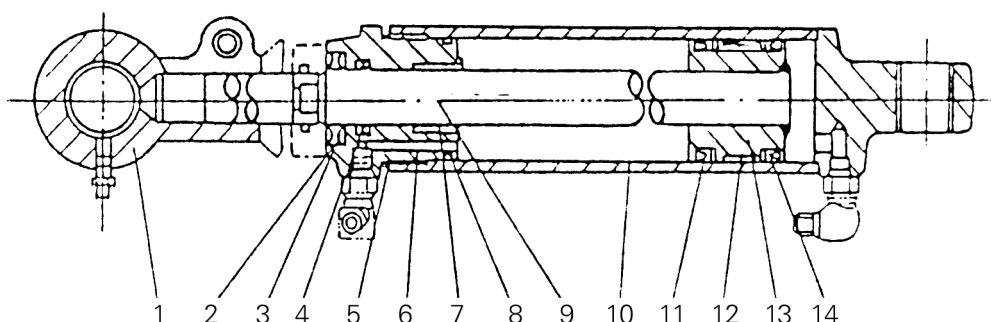

Fig.9-11 Tilt cylinder
- (1) Nipple (2) Spring (3) O-ring (4) Snap ring (5) Orifice plate
(6) Sleeve (7) Valve core (8) Ball (9) Spring (10) Valve body
9.7 Tilt Cylinder (See Fig.9-11)